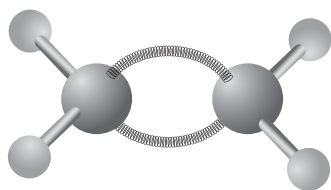

Figure 21.3
- If springs are available for the construction of double bonds (Figure 21.3), construct 2-butene, $\text{CH}_3\text{—CH=CH—CH}_3$. There are two isomers for compounds of this formulation: the isomer with the two —CH_3 groups on the same side of the double bond, *cis*-2-butene; and the isomer with the two —CH_3 groups on opposite sides of the double bond, *trans*-2-butene. Draw these two structures on the Report Sheet (8a).